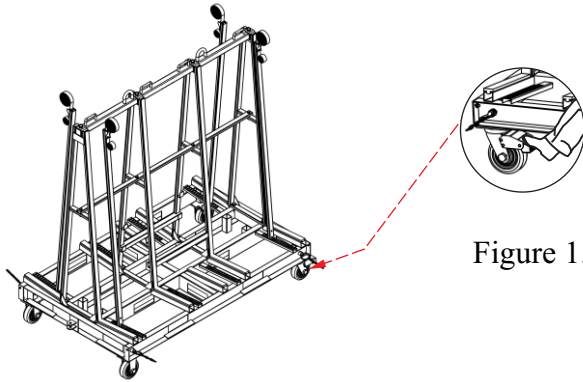

Figure 1.1
Step 1: Lock the two swivel casters (Figure 1.1).